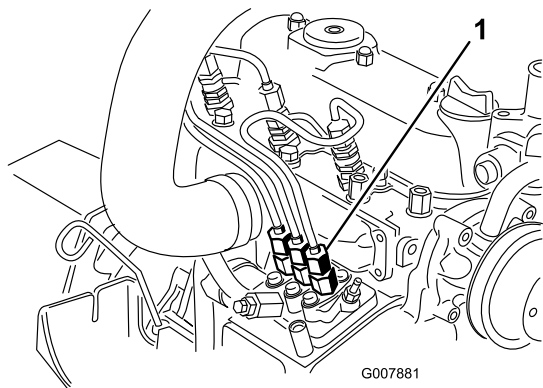

Figure 69
1. Place a rag under the pipe connection coming from the injection pump to the No. 1 injector nozzle as illustrated in Figure 69.